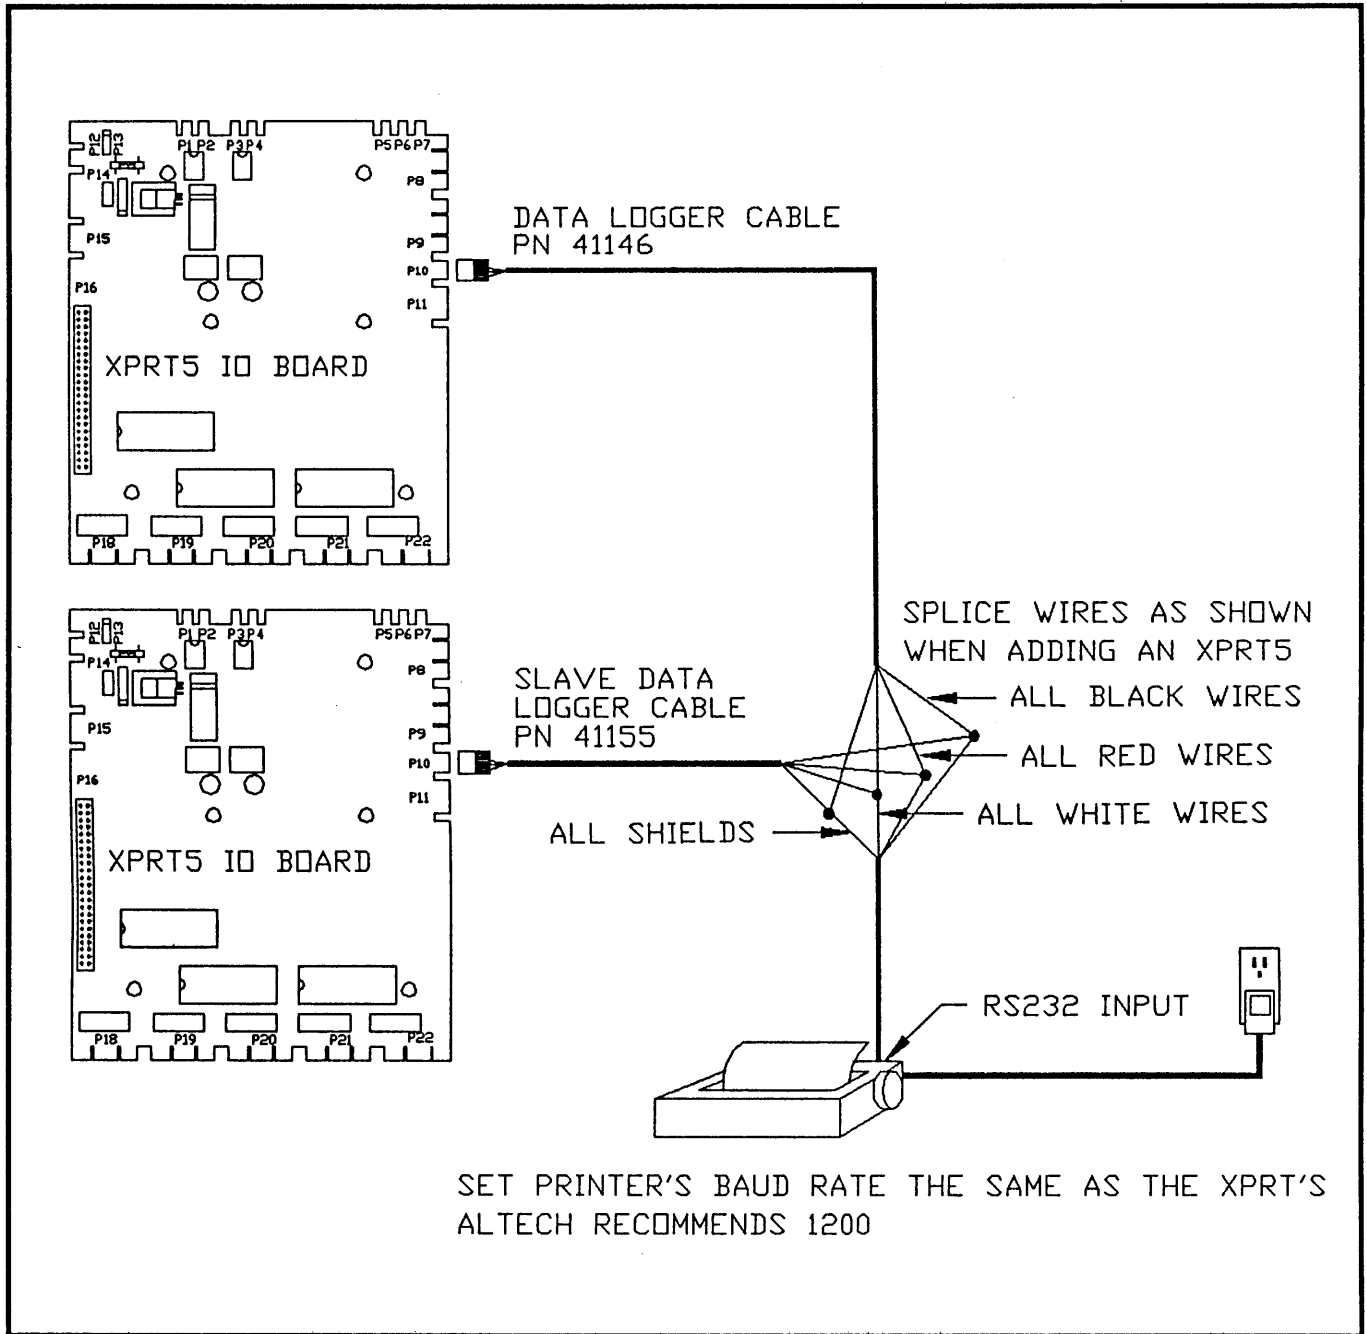

Figure C-16: Local Alarm Printer Wiring
- The XPRT5 also has the ability to auto-dial alarms to a alarm printer if equipped with a telephone modem. (See **Figure C-16**)
- The installation of the Silence Timer is optional but recommended. Suggested vendor for a 12 hour timer (with NC contacts) is Mark Time #90002 (Mfg: Rhodes 203/673-3281). A stocking distributor for this timer is Minarik – (818) 507-6500.